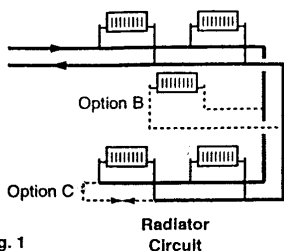
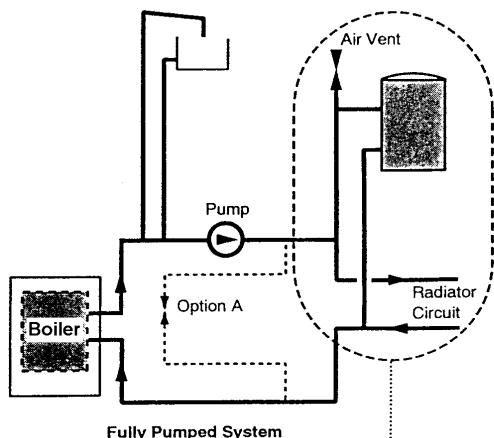

Fig. 1
Fig. 2
- a) For 30/40/50 PF a minimum of 8 metres of 22mm pipe, for 60/70/80 PF a minimum of 8 metres of 28mm pipe (measured between the boiler flow and return connections). It should be fitted with a lock shield valve opened at least 1 full turn to give a minimum flow rate of 8 litres/min (1.8 gal/min) (Option C, Fig. 1 & Option A, Fig.2).
- b) A radiator fitted with lock shield valves. The radiator output should be a minimum of 800 watts (2,700 Btu/h). Typically a convector type radiator with an area of 3750 cm2 (4 sq ft) is adequate (Option B, Fig. 1).
- c) Any circuit that provides the same operating conditions as option A or option B (Figs. 1 & 2).